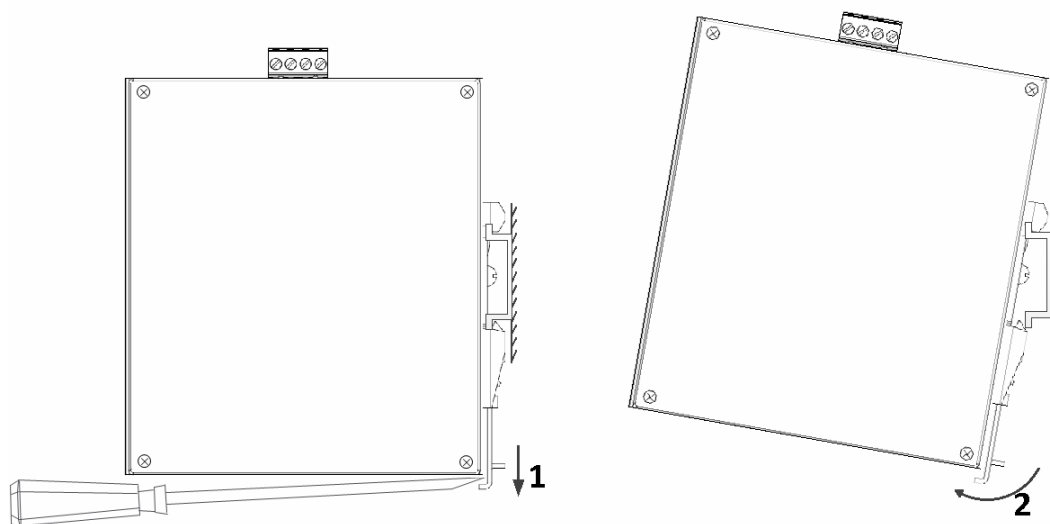

Figure 7-2 Uninstalling steps
2. Use straight screwdriver (medium or small size) to open the buckle, as shown in 1 of Figure 7-2.
3. Then rotate the module, as shown in 2 of Figure 7-2.